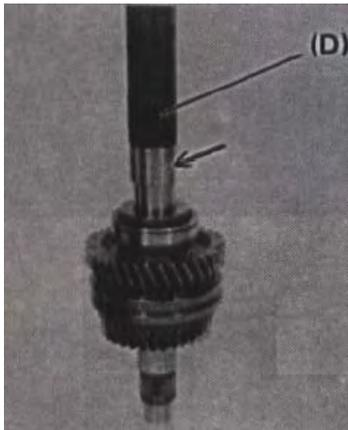

Fig 10-61
(5) Press-fit reverse gear bush, preventing ball installed in step (4) from coming off. Bearing installer (D) is shown in FIG. 10-61.